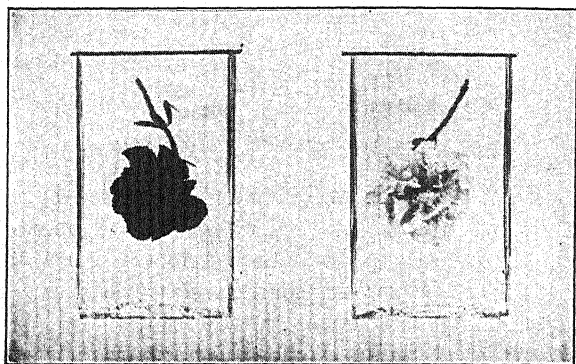

FIG. 202. — Carnations showing the bleaching effects of sulfur dioxide.
2. *For bleaching.* Wool, straw, and silk are sometimes bleached with sulfur dioxide. It does not injure the fiber, but the bleach is not permanent. If a straw hat is bleached with sulfur dioxide, and then worn in sunlight for a few weeks, the yellow color reappears. Carnations lose their color rapidly, if placed in moist sulfur dioxide. (See Fig. 202.) It also finds use in bleaching flour, molasses, and dried fruits. Maraschino cherries are bleached with sulfur dioxide, and then dyed red or green by the use of a dye-stuff.